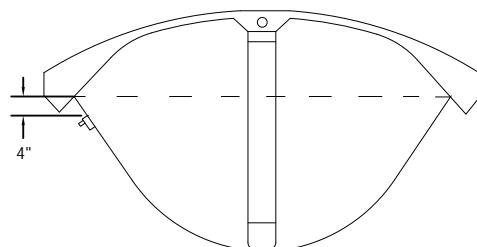

Figure 2
1) See Figure 2. Layout the mounting plate (1) positions on the passenger side of tub. Mark a location for the front and rear plates, 3" from each end of the tub and 4" down from the bottom of tub side rail.